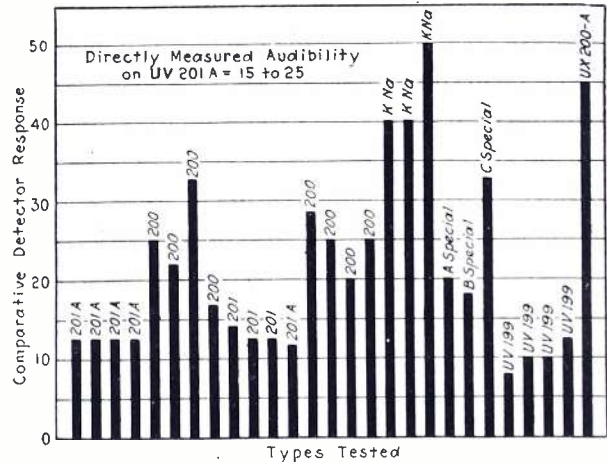

Fig. 4. Graphic results obtained from the various types of detector tubes tested
2. Comparative Efficiencies. Fig. 4 shows the results of comparative tests on various typical tubes to illustrate the present comparative efficiency of the potassium sodium alloy detector. Since making this test the Radiotron